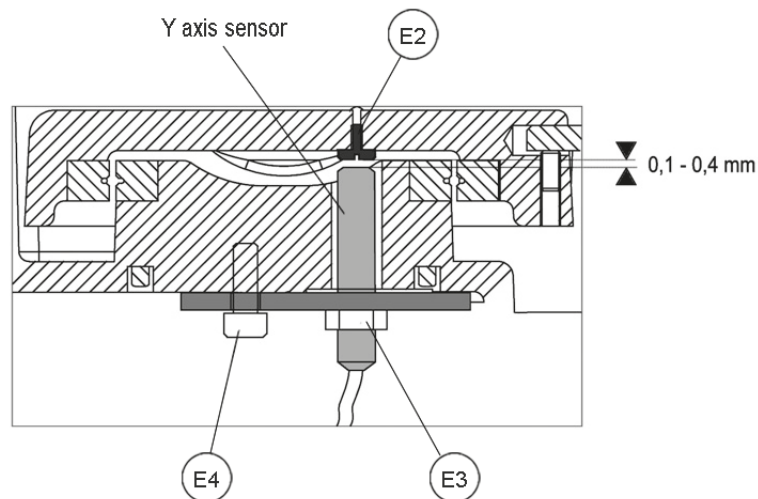

Fig. 47
7) Loosen the nut (E3), unscrew the sensor from the plate and remove (Fig. 47).